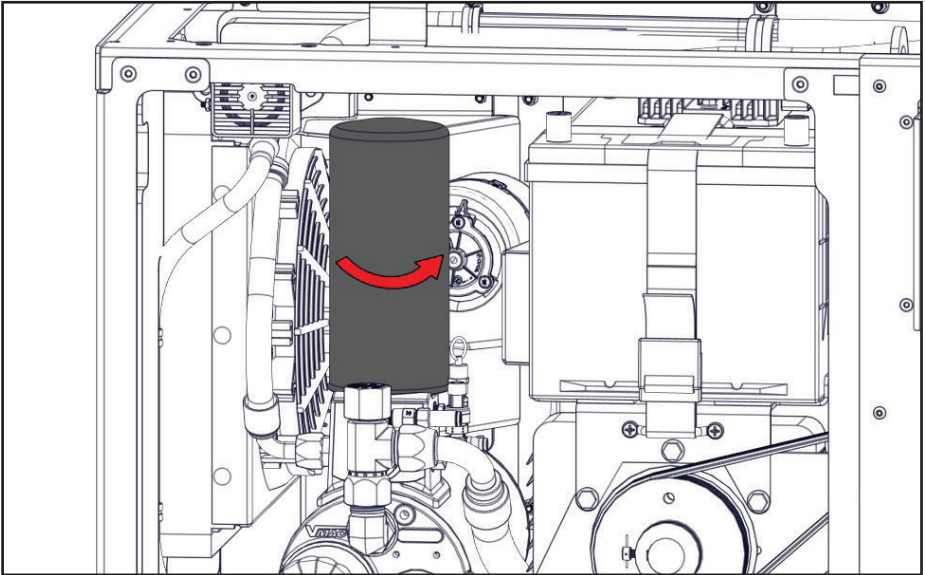

Figure 34 — Remove the coalescing filter
- ☐ Remove the coalescing filter, being careful to avoid damaging the scavenge tube or screen (Figure 34).